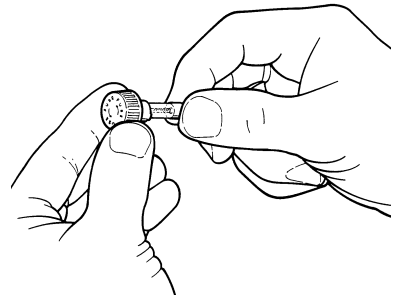

Figure 42
4. Insert a 15 A, 32V, slow blow fuse (size 3AG) into the fuse cover until the fuse is fully seated. (Figure 42.)